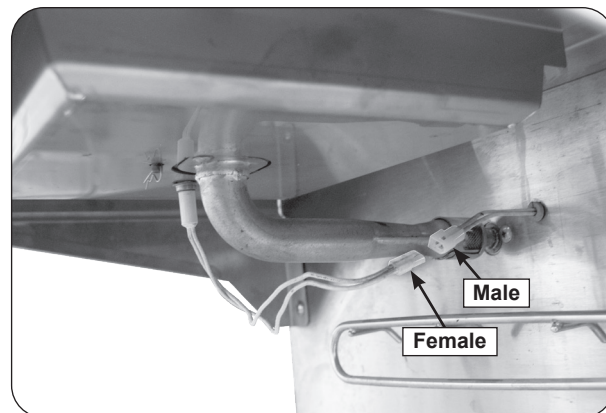

Fig. 22-2 Igniter wire connection
4. Connect the female connector on the end of the hot surface igniter wire to the male connector coming from inside the grill. See Fig. 22-2.